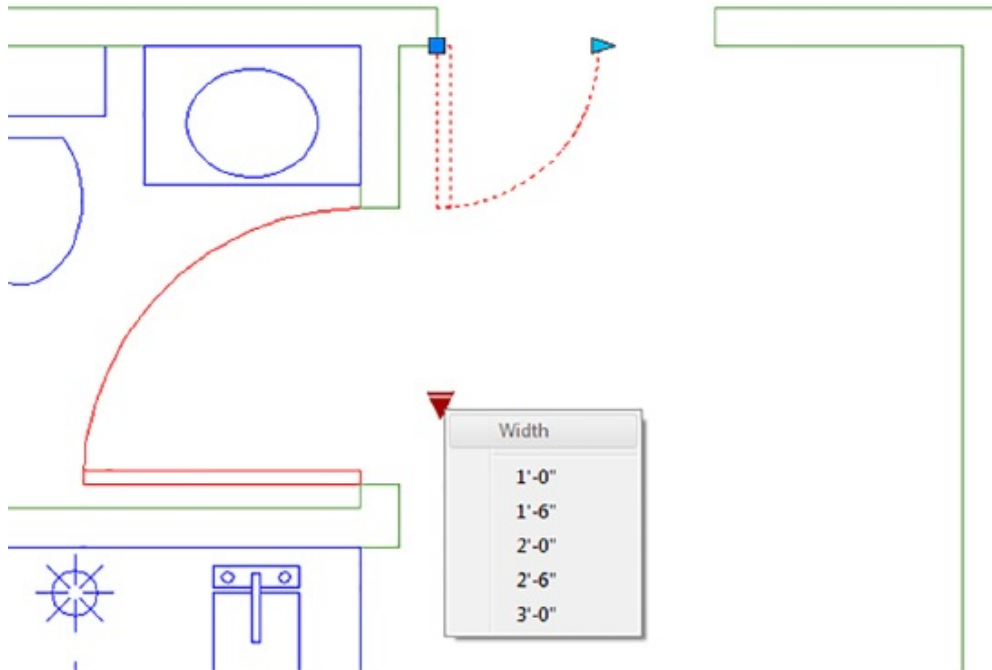

FIGURE 17.21 The list with the word *Width* appearing as the column title
5. To see the change, click the down-pointing grip below the door as you did in the previous exercise. Now you see the word *Width* as the heading in the list of door widths (see Figure 17.21).